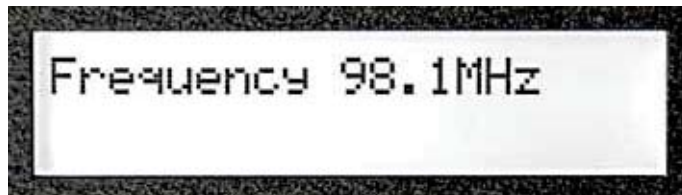

Figure 3-9. Press the FUNCTION Key to read Frequency
1. After pressing the FUNCTION key on the front of the Gamma, the Forward and Reverse power readings appear on the LCD display (see Figure 3-9).
1. After pressing the FUNCTION key on the front of the Gamma the operating frequency will appear on the LCD display (see *Figure 3-9*).